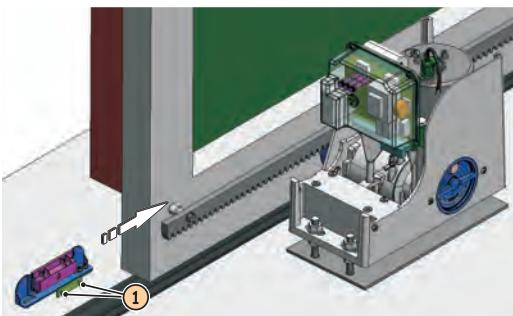

Fig. 18
- ③ Manually take the gate to opening position, leaving 4 cm from the travel limit mechanical stop.
- ④ Allow the magnet, with the padlock open, to slide in opening direction on the rack - see figure 18. As soon as the LED on the board, referring to the opening limit-switch, goes OFF, take the magnet forward by another 10 mm and fasten it with the appropriate screws (Fig. 18 ref. ①).
- ⑤ Do likewise for the closing magnet.
⑥ Take the gate to about halfway of its travel and relock the system (see paragraph 9).